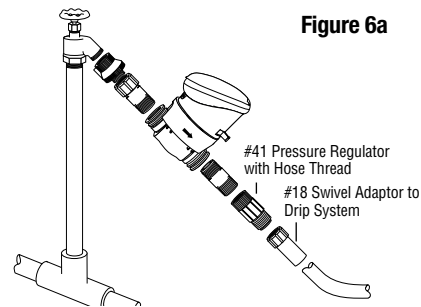

Figure 6a
4. After installation of the controller, if you use a drip system, first connect the pressure regulator with hose thread DIG Model #4 to lower the incoming pressure to your drip system and then the swivel adapter DIG Model #18 and then the drip line. See Figures 6a and 6b.